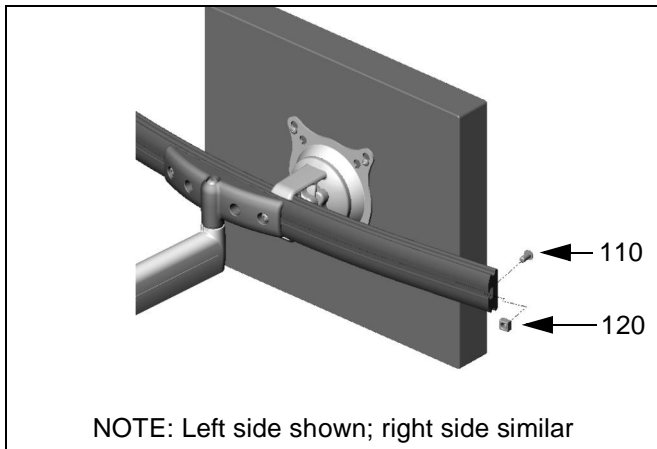

Figure 17: Install End Locks
7. Position the displays as desired and tighten the Centris head knob closest to the array (10). See "ADJUSTMENT" for additional information.
- Using 5/32" hex key, install screw (110) and nut (120) on each end of the array (10) to prevent displays from accidentally sliding off (See Figure 17).